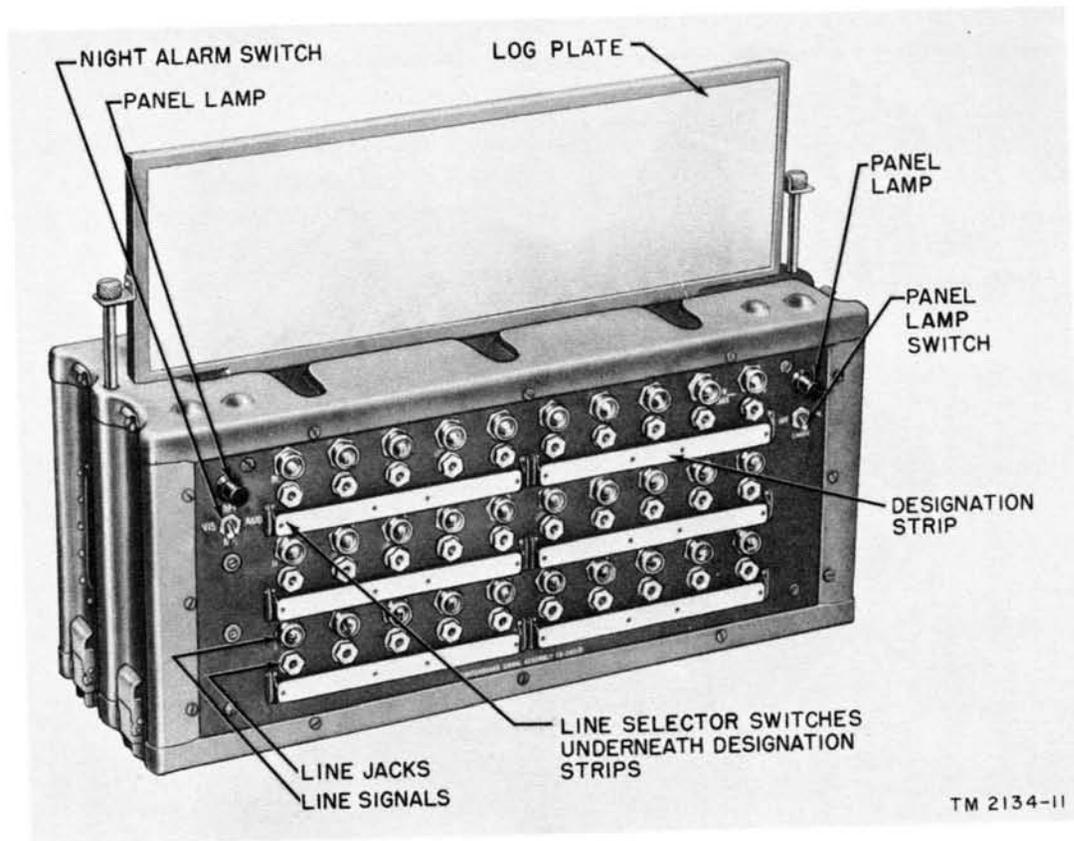

Figure 10. Switchboard Signal Assembly TA-207/P (jack field section).
#### 13. Switchboard Signal Assembly TA-207/P and Log Plate (fig. 10)
e. Install the log plate on the top of the jack field section as shown in figure 10.